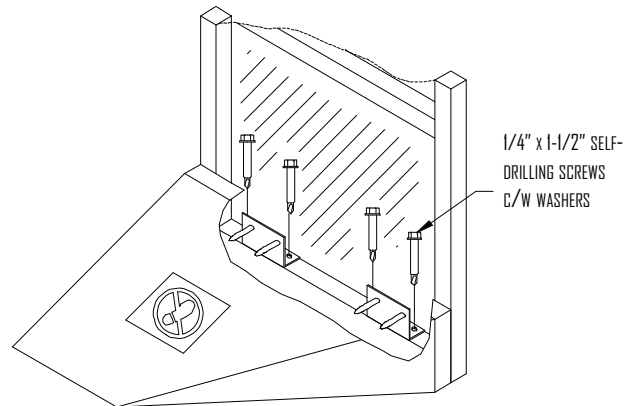

FIG. 11B
- Place bottom pad along bottom of vertical frame (Fig. 11b).